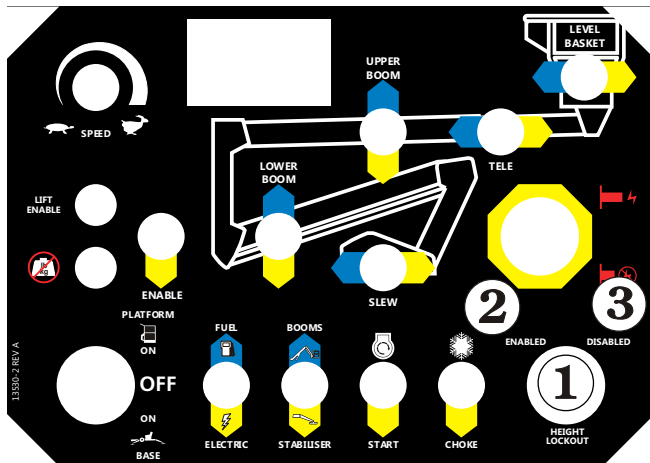

Figure 11.19 - Height Lockout Switch
This switch allows the machine to operate to its full boom height of 11.5m when the switch is in the DISABLED position ❸ or to the restricted height of 10.9m when the switch is in the ENABLED position ❷ see Figure 11.19.